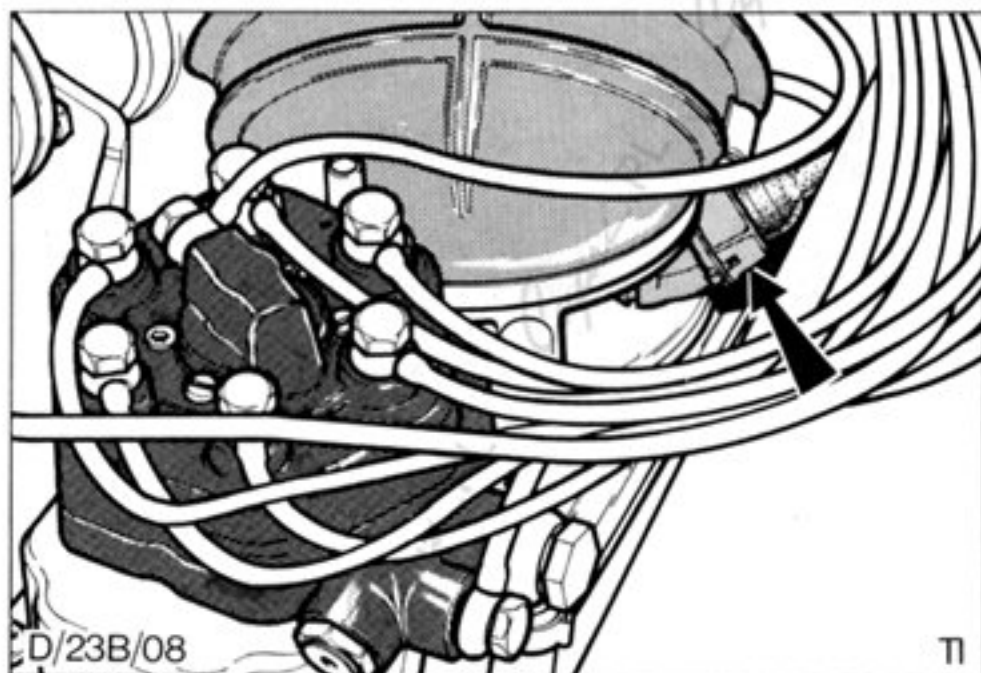

Fig.83. Air sensor safety switch.
10. Disconnect electric plug at air sensor safety switch, Fig.83.